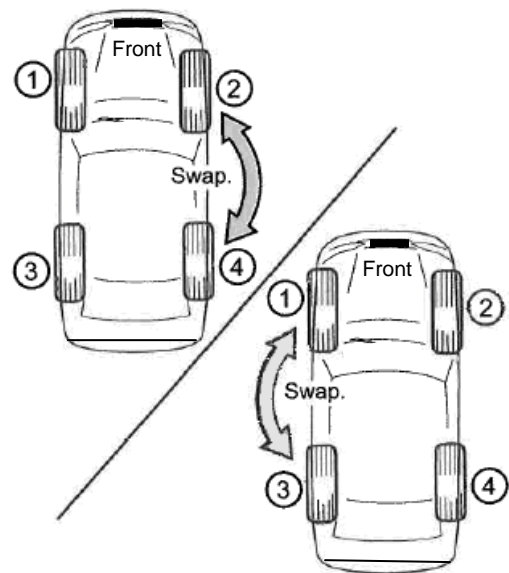

Figure 2
- a. Rotate tires 2 and 4 on the passenger side (see Figure 2) and road test.
- b. Rotate tires 1 and 3 on the driver side (see Figure 2) and road test.